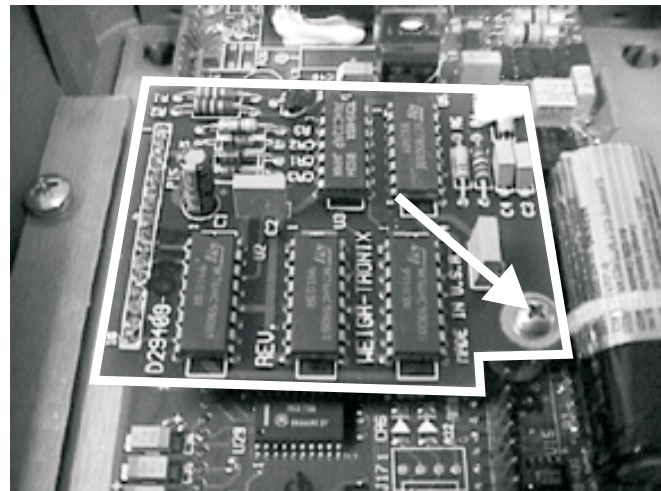

Figure 11
5. If you need to remove an optional time and date PC board, remove the screw shown in Figure 11 and pull the board (outlined in white below) up and off the main PC board. Reverse this procedure to install a time and date board.